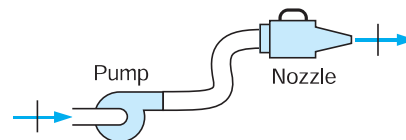

FIGURE P6.71
- 6.71** Consider a water pump that receives liquid water at 15°C, 100 kPa and delivers it to a same-diameter short pipe having a nozzle with an exit diameter of 1 cm (0.01 m) to the atmosphere at 100 kPa (see Fig. P6.71). Neglect the kinetic energy in the pipes and assume constant u for the water. Find the exit velocity and the mass flow rate if the pump draws 1 kW of power.